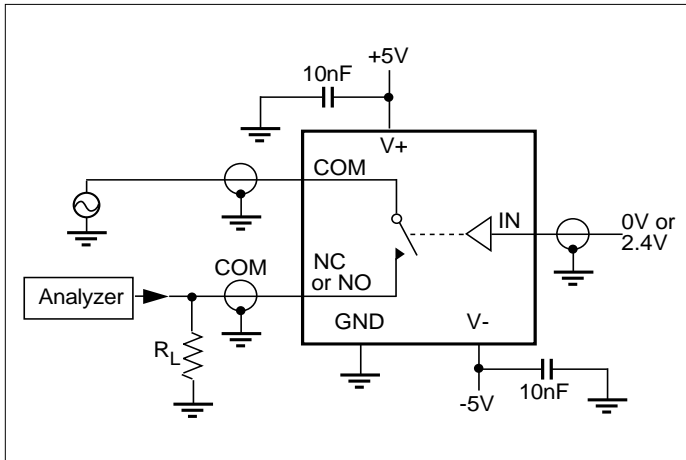

Figure 5. Off Isolation
- Off Isolation = $20 \log_{10} [V_{COM} / (V_{NO} \text{ or } V_{NO})]$. See figure 5.
7. Off Isolation = $20 \log_{10} [V_{COM} / (V_{NO} \text{ or } V_{NO})]$. See figure 5.